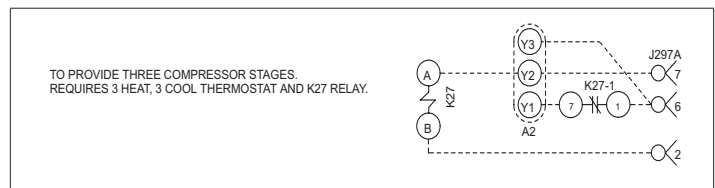

Figure 6. Third-Stage Cool (Parameter 111) Wiring
- **Option 3. Three Cooling Stages:** Cooling operation is shown in “Table 7. Thermostat Mode Operation (Three Cooling Stages Parameter 111)” on page 10; this option requires the use of a three-stage cool thermostat and a K27 relay. See wiring pictorial in “Figure 6. Third-Stage Cool (Parameter 111) Wiring” on page 9 and C section control wiring diagram.